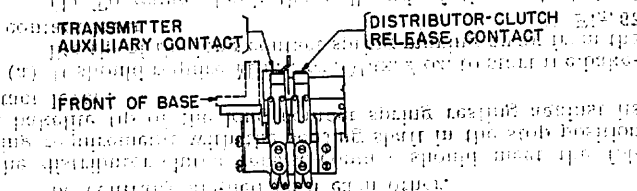

Fig. 65
(1) To gauge, trip in (p) of the sensing clutch and rotate the motor by hand until the contact lever operates the long contact spring. Hook the pull end of the scale behind the short contact spring at the contact and pull horizontally to the right.
(2) To adjust, bend either on both sides of the short contact spring making sure to maintain a slight clearance between the springs and their stops. Fig. 65